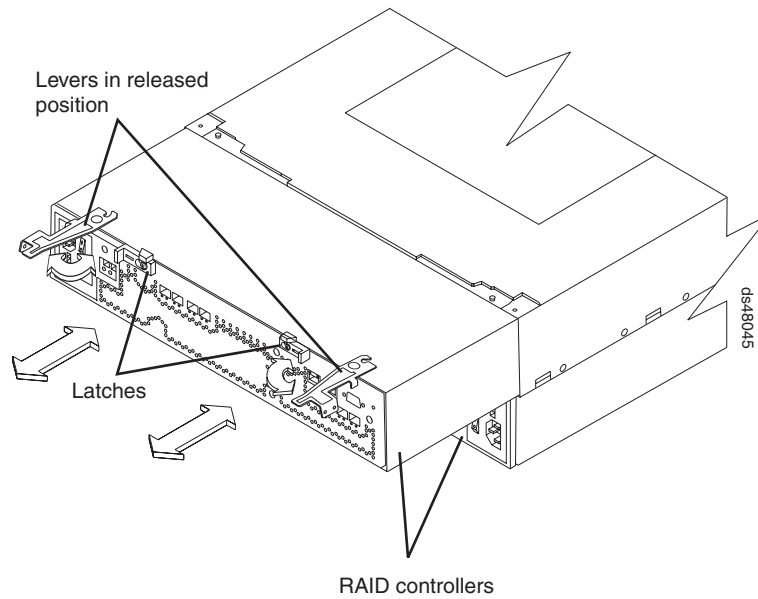

Figure 82. Removing the controller from the storage subsystem
- b. Use the levers to slide the controller from the storage subsystem chassis. (Figure 82 on page 137 shows a controller sliding from the storage subsystem chassis.)